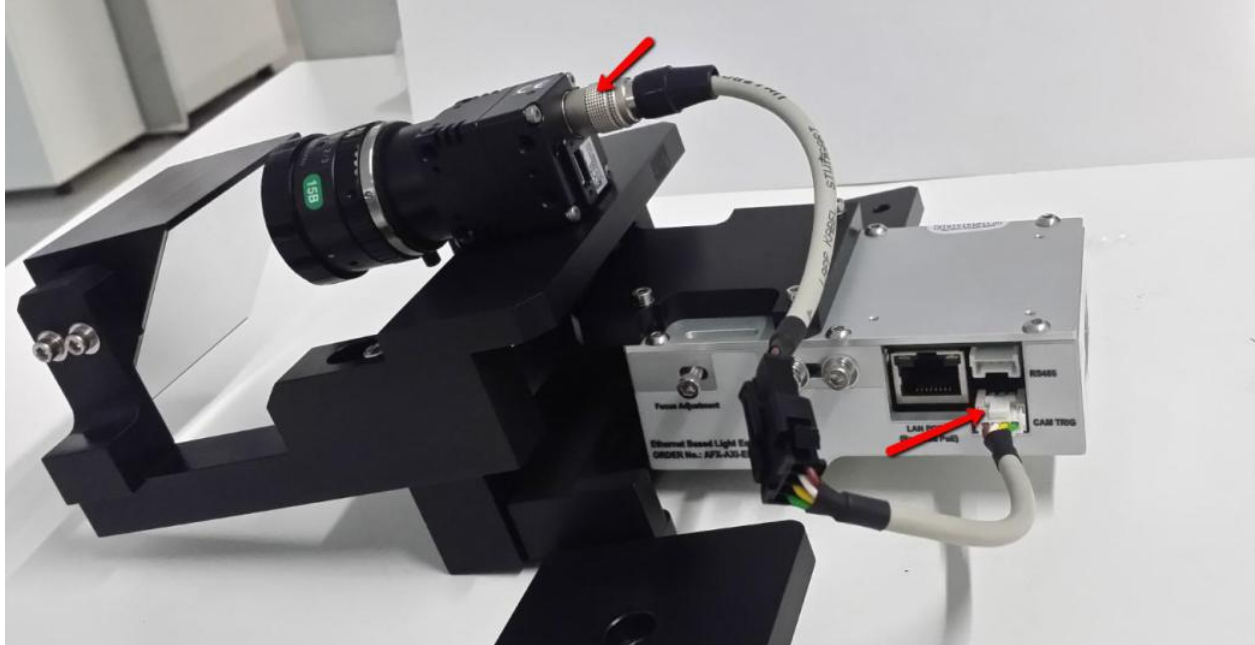

Figure 7 Triggering cable removal
1. Remove the Triggering cable as below Figure 7.